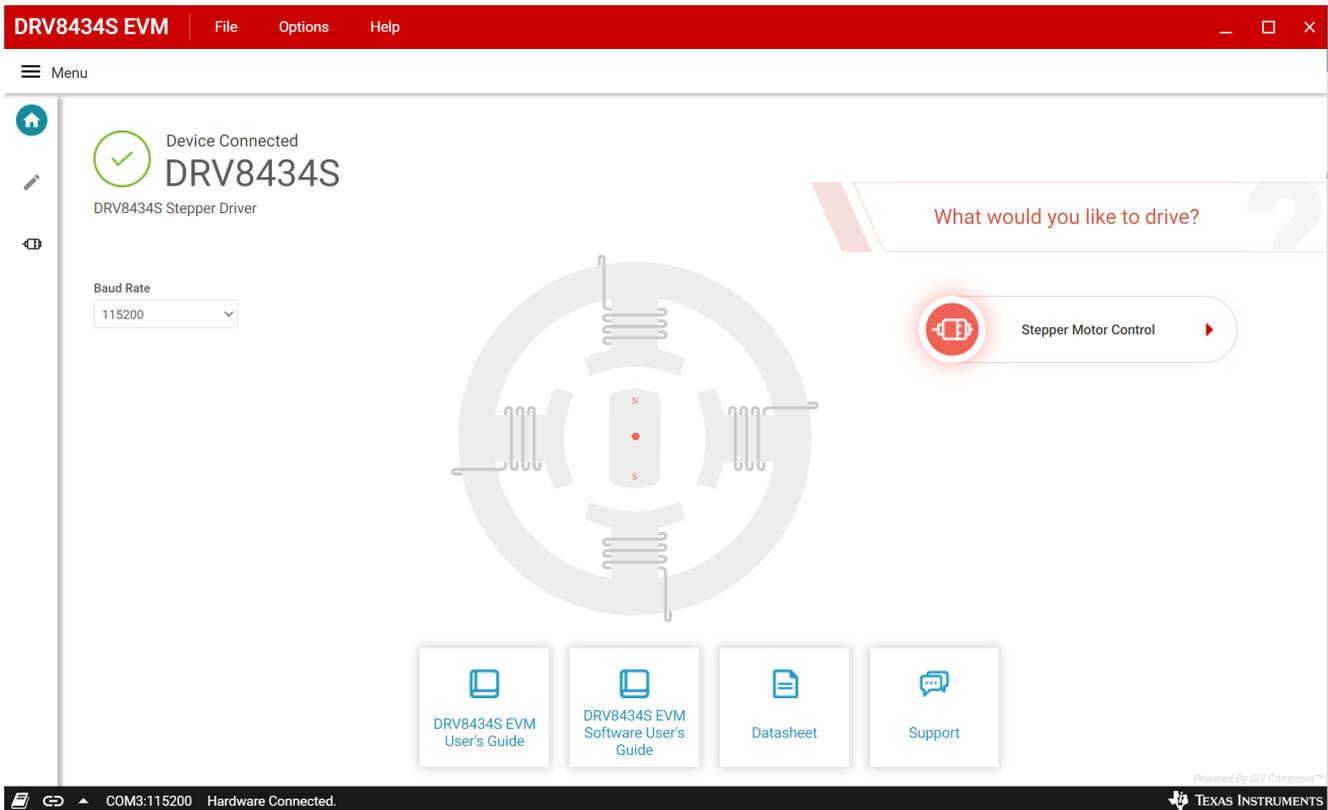

Figure 4-2. DRV8434S EVM GUI (Home Page)
- The Application opens with home page shown in the Figure 4-2.
Once the desired EVM is connected, the home page will show the message ‘Hardware Connected.’ with a green check mark at the top left of the GUI Motor Driver page as shown in the Figure 4-2.